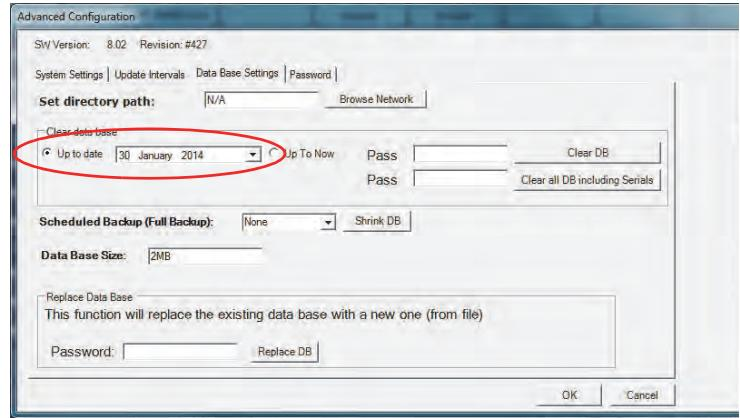

Figure 10-8: TRACS Advanced Configuration Window-Database Settings Tab - Export Database
- On the **TRACS** main screen> **Management** tab> **Advanced Configuration**> **Database Settings** tab, click **Shrink DB**. The backup of the database is compressed into a smaller file. Refer to **Figure 10-8** on page **10-9**.